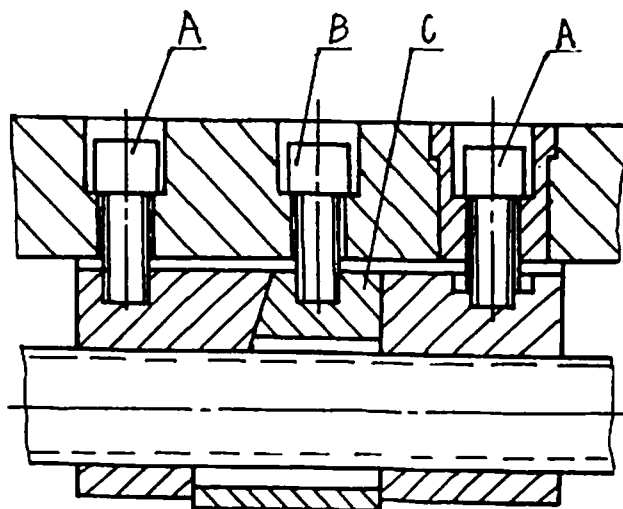

Fig 6
1. Loosen two hex socket screw(A, Fig.6)
2. Rotate the screw(B, Fig.6) down until the wedge(C, Fig.6) moves up, the clearance of cross feed nuts disappear.
3. Tighten the two hex socket screws(A, Fig.6)